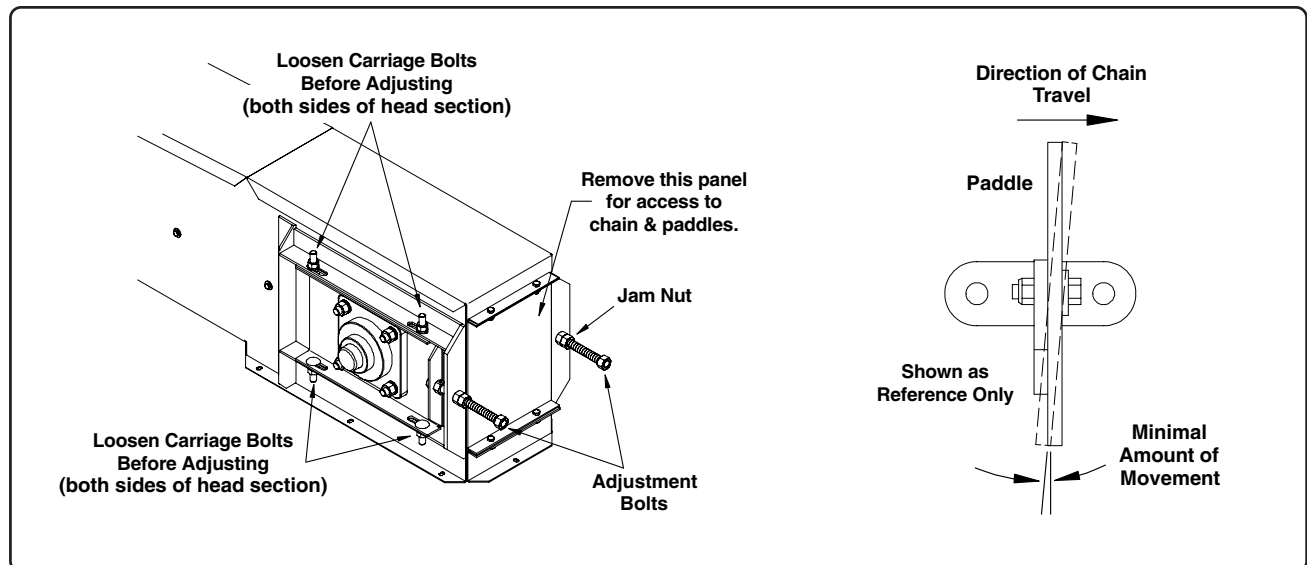

Fig. 24
4. Remove the access panel from the front of the head section (See Fig. 24 on Page 41). Route the chain and paddles down the bottom partition in the housing to the inlet hopper, around the hopper sprocket, and back up through the upper partition to the discharge end.